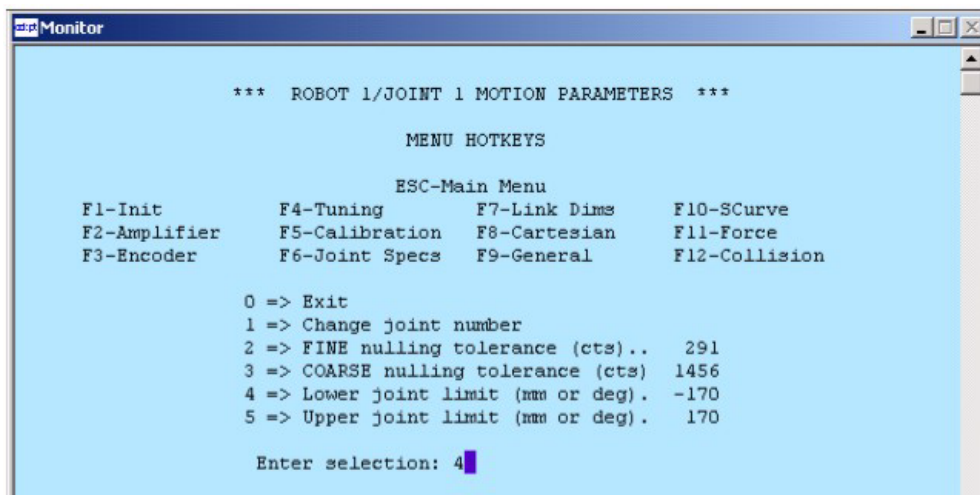

Figure 1-14. Joint 1 Motion Parameters Menu
4. The system should go to the menu for Joint 1 - verify this at the top of the screen as shown in Figure 1-14. If it is not displaying Joint 1, select option 1 => Change joint number, and enter 1.
5. After confirming you are in the Joint 1 menu, select option 4 => Lower joint limit. See Figure 1-14.